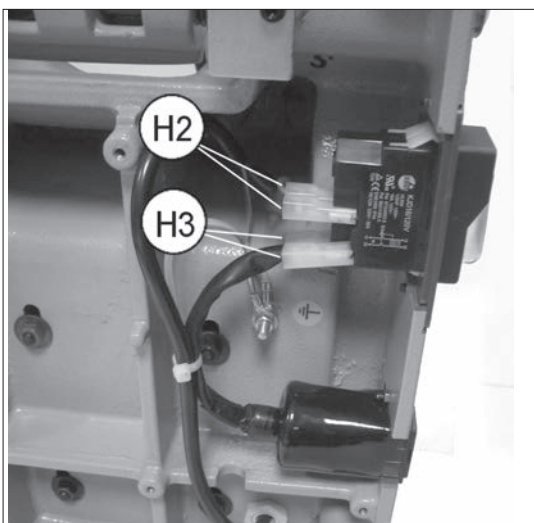

Fig. 57
- 2) Detach the 4 connectors (H2) and (H3) paying special attention to their position (Fig. 57).